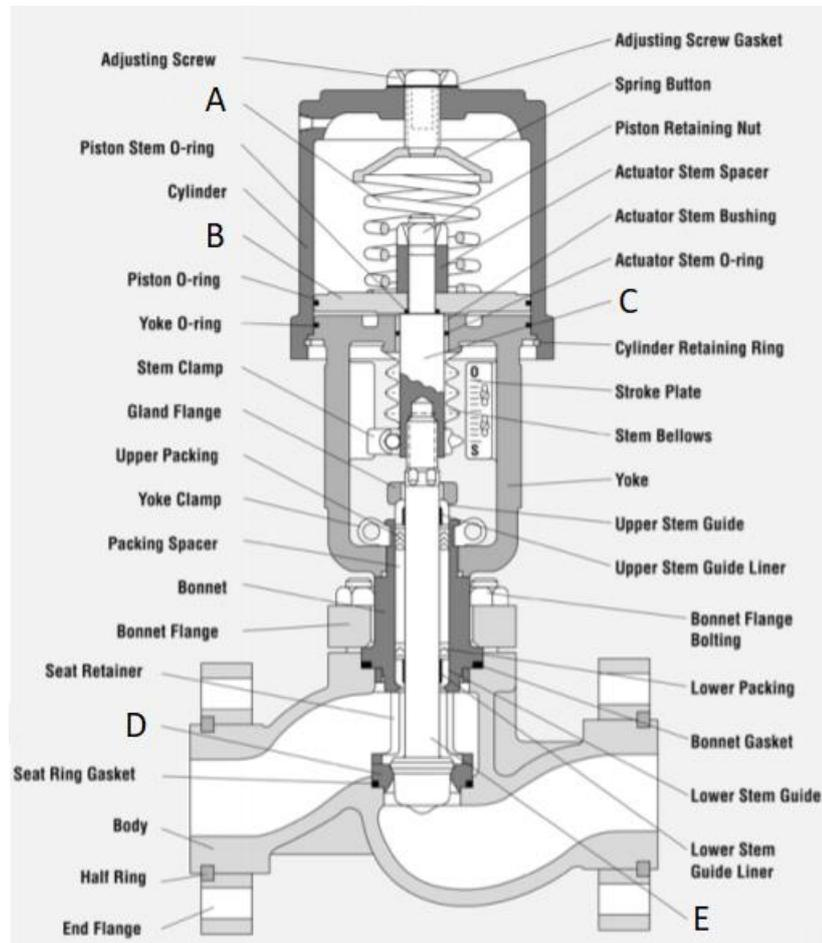

Figure 3(a)
- (a) Identify the control valve components A, B, C, D, and E as labelled in **Figure 3 (a)**.